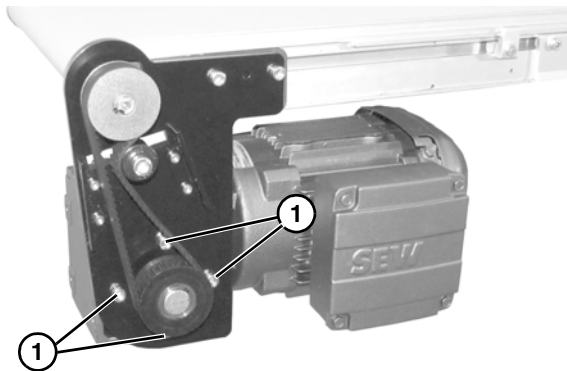

Figure 6
2. If required, change gearmotor position by removing four (4) screws (Figure 6, item 1). Rotate gearmotor to other position and replace screws (Figure 6, item 1). Tighten to 103 in-lb (12 N-m).